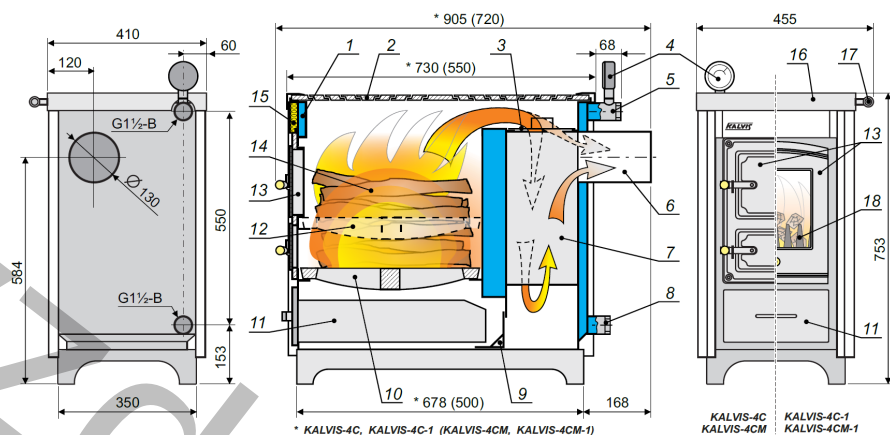

Fig 1.
** Firing the boiler with fire grate in the top (10) (see fig. 1) or bottom (12) position.
Water is heated in cavities of boiler frame (1) (see fig. 1). Heated water flows from the hot water pipe (5), cooled water returns through the pipe (8). Topmost part of the boiler is covered with a cast iron plate with rings (2). Pipes have G1½B thread